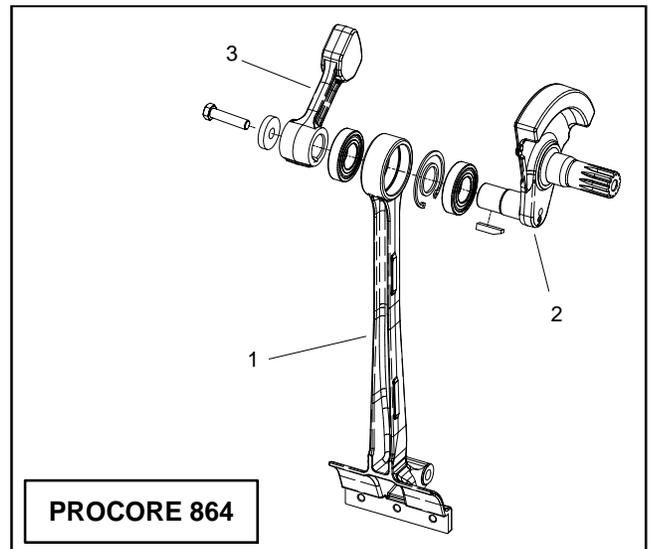

Figure 10
- C. If #8 (final) stomper arm is being removed from a ProCore 864, remove counter weight (item 3, Fig. 10) from coring crankshaft.